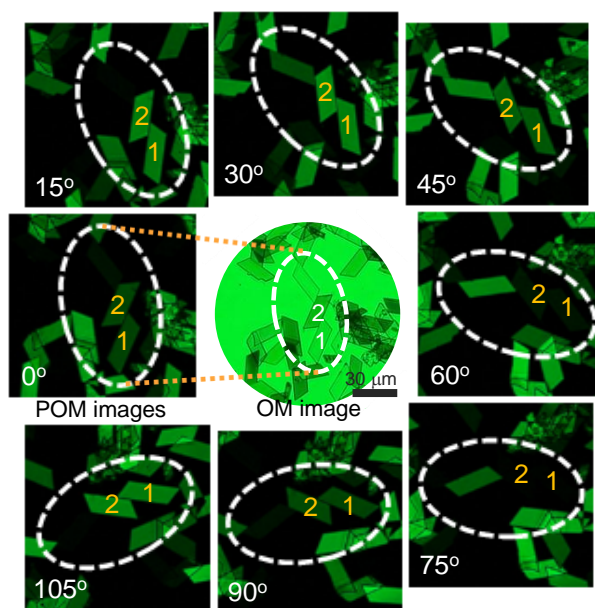

Fig. S5 POM and OM images of microsheets prepared from 1.1×10^{-3} M THF/H₂O.
5. Fig. S5 POM and OM images of microsheets	pS4